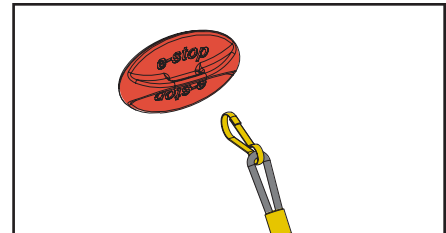

Figure 2
**The function of the immobilization method:** The purpose of immobilizing the treadmill is to prevent unauthorized use. This can be accomplished by removing the e-stop key from the console, unclipping it from the cord and putting it in a non-accessible place. See Figure 2.